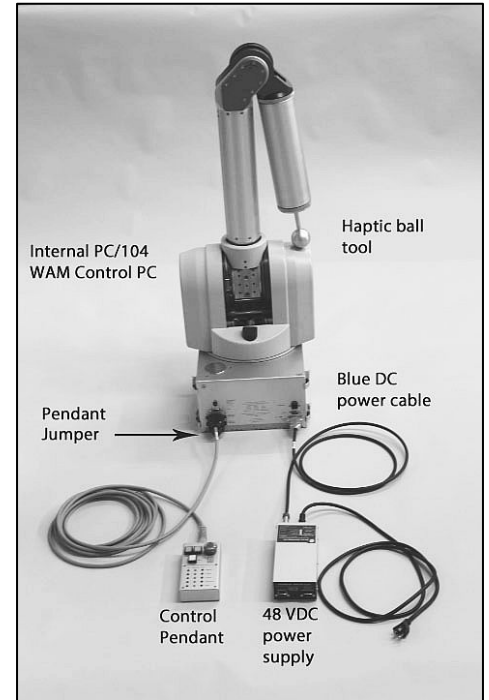

Figure 1
- Arrange and connect the electrical cables as shown in Figure 1